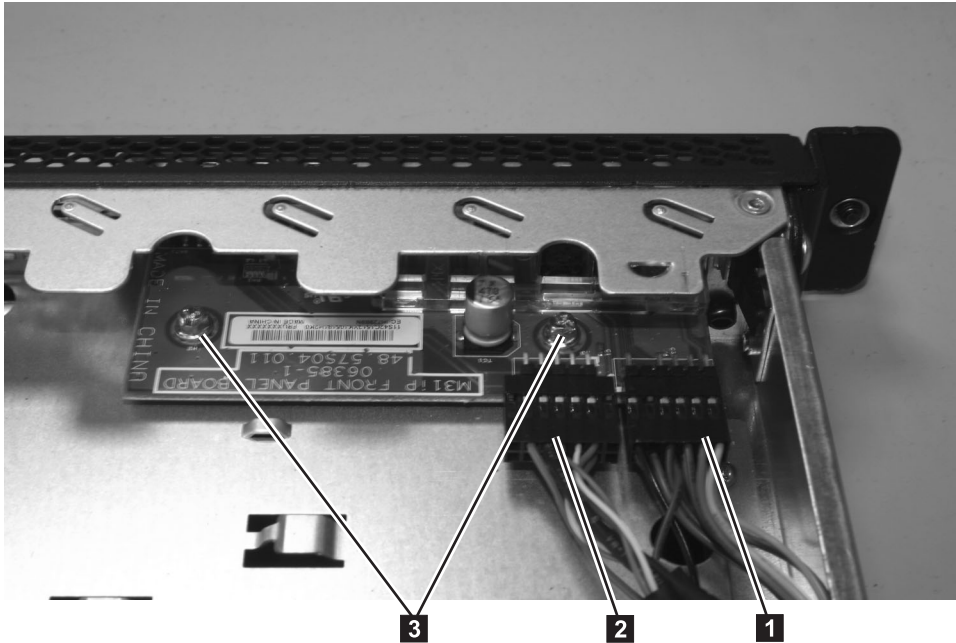

Figure 206. SAN Volume Controller 2145-8A4 operator-information panel
5. Remove the screws ( **3** in Figure 206) that secure the operator-information panel to the CD/DVD bay housing.
7. Disconnect the light-panel cable **1** and the USB cable **2** from the operator-information panel board, shown in Figure 206.